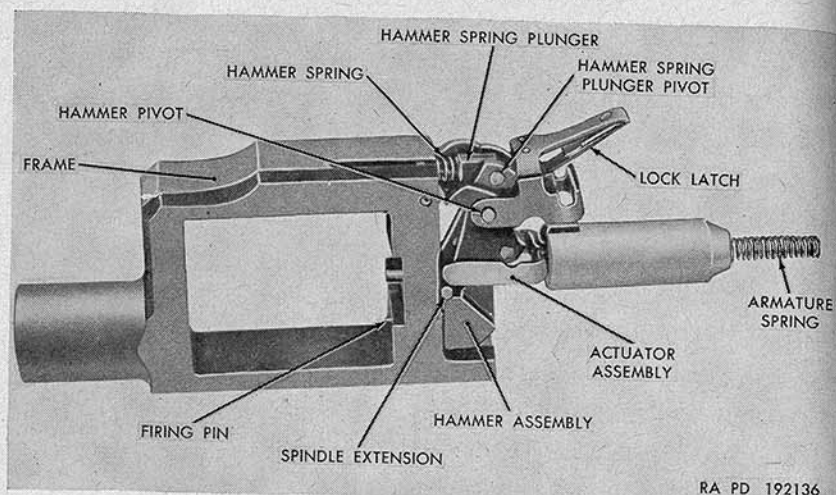
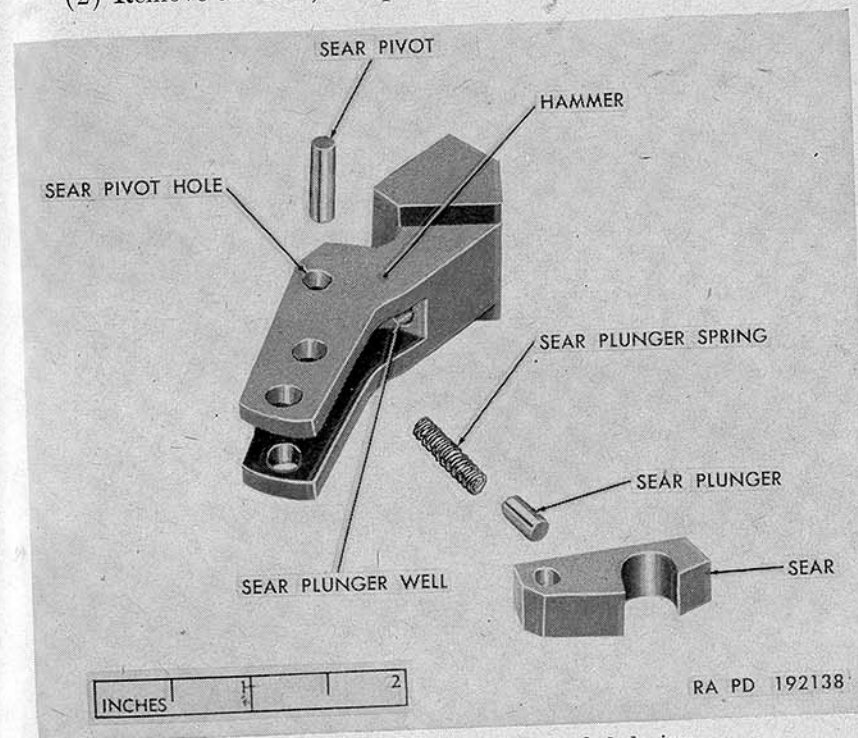
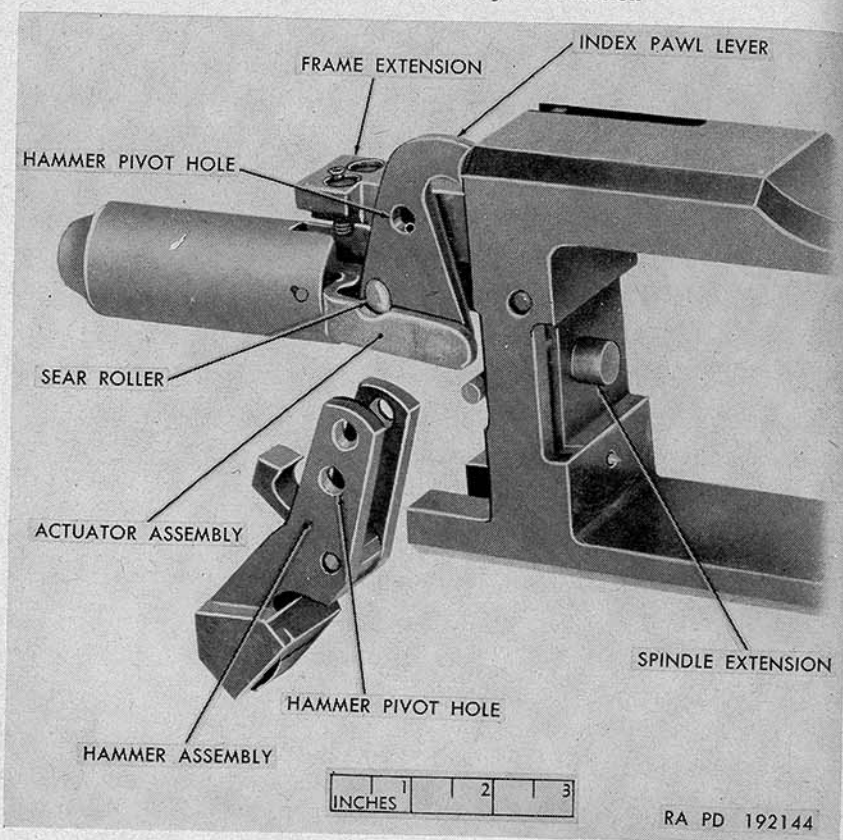

Figure 96. Charger frame group.
Figure 98. Hammer assembly—exploded view.
Figure 104. Installation of hammer assembly on frame.
a. *Disassembly of Frame Group* (figs. 96 and 97).
- (1) Withdraw the actuator spring from the actuator.
- (2) Depress the hammer spring by pushing the hammer spring plunger into the frame. This will take the pressure off the hammer spring plunger pivot.
- (3) Drive out the hammer spring plunger pivot.
- (4) Raise the lock latch to clear leaf springs of plunger and spring. Release plunger and spring slowly and remove from frame.
- (5) Drift out the hammer pivot to free the lock latch, hammer assembly, and actuator assembly.
- (6) Remove index pawl and pawl spring from actuator assembly.
- (7) Unscrew and remove sear stop.
- (8) Withdraw the spindle extension.
- (9) Push firing pin into frame below firing pin retainer. Slide out firing pin retainer and withdraw firing pin and firing pin spring.
b. *Disassembly of Hammer Assembly* (fig. 98).
- (1) Drift sear pivot from the hammer.
- (2) Remove the sear, sear plunger, and sear plunger spring.
- (1) Insert sear plunger spring and sear plunger in the sear plunger well.
- (2) Depress the sear plunger and spring with the sear. Be sure hook side of sear faces away from hammer face.
- (3) Align the hole in the sear with the sear pivot hole of the hammer and install the sear pivot.
- (4) Align hammer pivot hole (fig. 104) of hammer assembly with those of the index pawl liner assembly by sliding the hammer between the index pawl lever and the frame extension.
- (5) Align hammer pivot holes of lock latch with those of the hammer assembly, extension, and levers. Drift in hammer pivot.
- (6) Lift the lock latch (fig. 96) so that the leaf springs will allow sufficient clearance for installation of hammer plunger and spring.
- (7) Slide hammer plunger spring beneath lock latch into the deep hole in the frame. Insert hammer plunger in the same manner.
- (8) Depress hammer plunger and maintain the pressure against the spring and install the hammer spring plunger pivot.
- (9) Release plunger and be sure the groove in the plunger head rests in the notch of the hammer spring plunger pivot (fig. 96).
- (10) Install armature spring in armature (fig. 96).